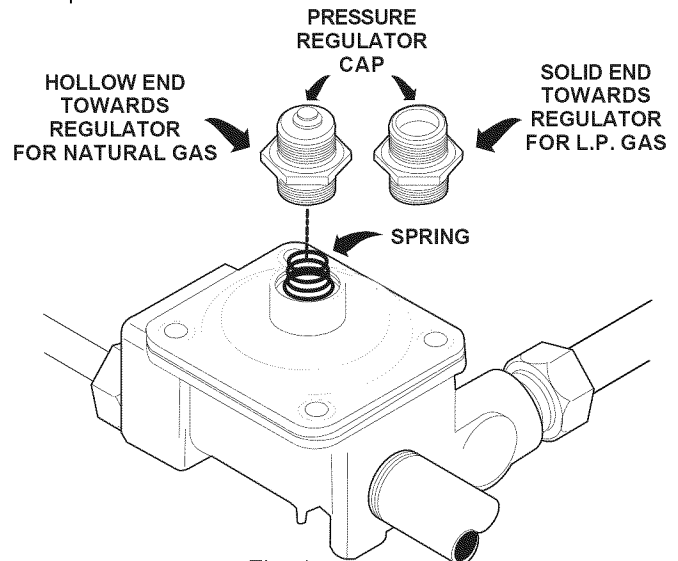

Fig. 1
- Unsnap the plastic dust cap protector from the brass pressure regulator cap. Use a 5/8" open-end wrench to loosen and then remove the brass pressure regulator cap (See Fig. 1). **DO NOT** remove the spring from the pressure regulator.
- Turn the pressure regulator cap over so the hollow end faces toward the regulator as illustrated (See Fig. 1). Before installing the brass pressure regulator cap, be sure to remove the dust protector and reinstall the ring portion of the dust protector. The ring portion of the dust protector acts as a spacer between the regulator and brass regulator cap when converted to LP.